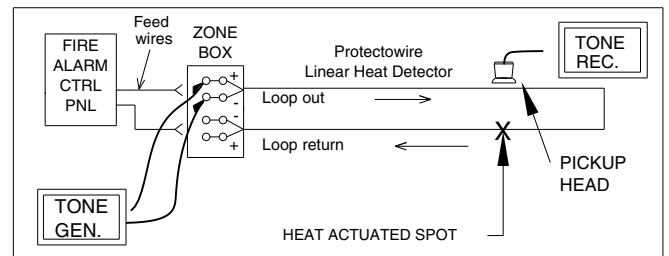

FIG. 4 CLASS A DET. CKT. W/GEN. CONNECTED.
- If detection circuit is a four wire Class A (NFPA Style D) label and disconnect all feed wires, the two going out to the start of the detection loop and the two returning. (See figure 4)